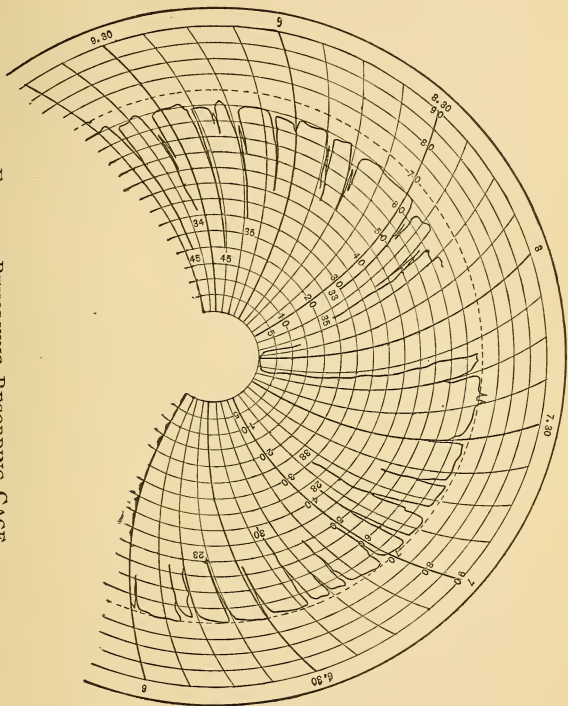
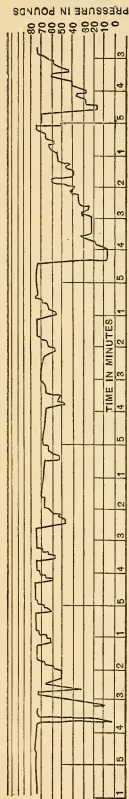

FIG. 41.—REVOLVING RECORDING GAGE.
FIG. 42.—HORIZONTAL RECORDING GAGE.
A. Two; a revolving gage, the chart of which is shown in Fig. 41, and a horizontal gage, a chart from which is shown in Fig. 42.
In Fig. 41, the broken line shows the path the pen would trace if there was a constant pressure of 70 pounds. No pressure is represented by the circumference of the small circle.
The distance between the lines running up and down represent the distance traveled by the train. The chart (Fig. 41) shows two records on the same run made by two different men. A study of the two shows several points of interest.
Fig. 42 shows a record taken from a horizontal recording gage.